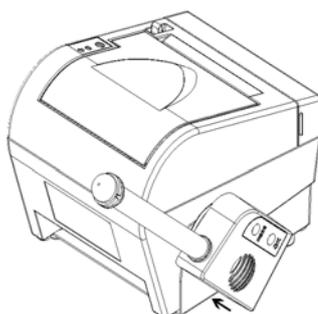

FIGURE 1
Step 1: Insert the Main Unit in the plastic turn-plate of the Bracket as shown in Figure 1.